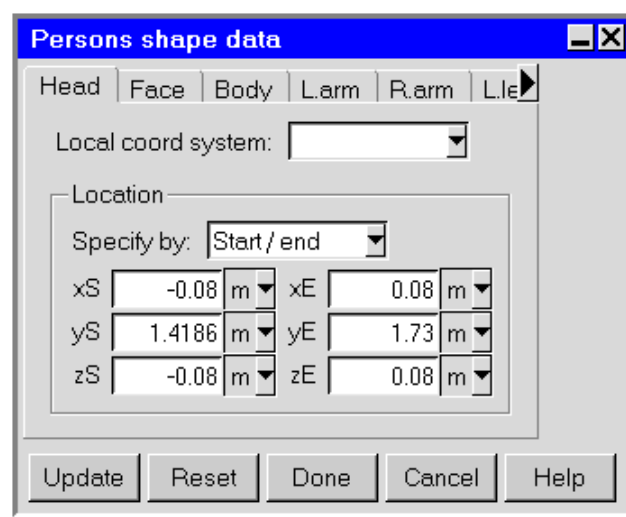

Figure 12.3.2: The Person shape data Panel
- (a) Deselect **Fix shapes** and click **Edit details** to open the **Person shape data** panel (Figure 12.3.2).